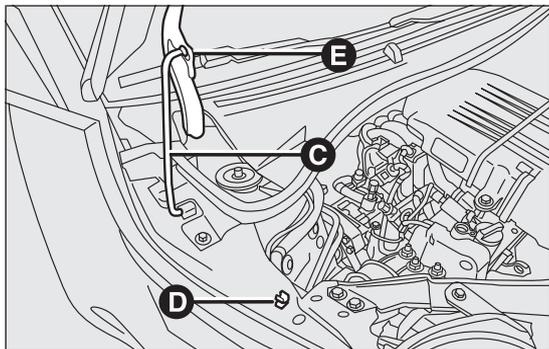

fig. 60
- lift the bonnet and, at the same time, release the supporting rod C fig. 60 from its catch D, then insert the end of the rod into housing E in the bonnet (larger hole) and push to safety position (smaller hole), as shown in the figure.
- hold the bonnet up with one hand and with the other remove rod C fig. 60 from housing E and fit it back into its catch D